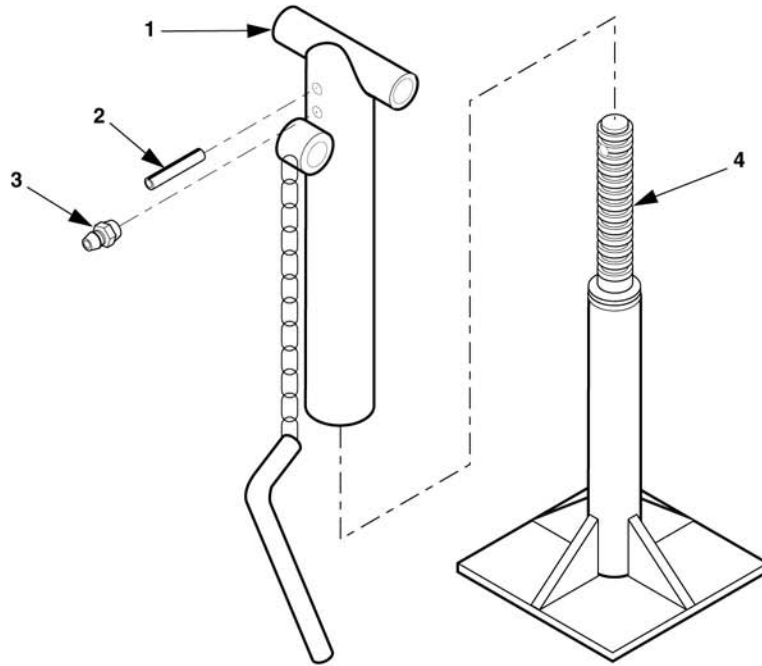

Figure 4-24. Jack, Leveling-Support Repair, 1 Ton Trailer.
- a. Clamp leg assembly in a vise with spring pin (2, Figure 4-24) facing up.
- b. Drive the spring pin (2) out of upper leg (1) and remove leg base (4).
- c. If defective, remove lubrication fitting (3).
- d. Inspect upper leg (1) and leg base (4) for damage. If either needs to be replaced, replace entire trailer rear leveling-support jack.